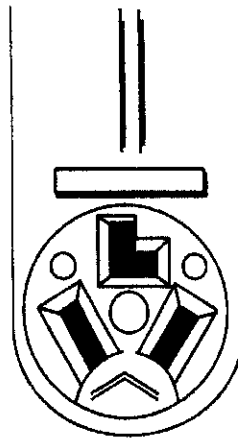
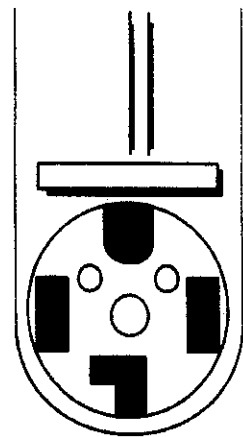

Fig. 2
Fig. 3
- A. A three-wire (Fig. 2) or four-wire (Fig. 3), single phase, 120/240 volt, 60 Hz, AC only electrical supply is required on a separate 30-ampere circuit, fused on both sides of the line. A time-delay fuse or circuit breaker is recommended.
1. Remove the yellow rip cord from the rear of the washer. Be sure two (2) cotter pins come out with the rip cord. (Fig. 2, page 2) Save this strap for use later.
2. Use the new hoses supplied with the laundry system. Insert a flat washer into each end of both hoses. (Fig. 2, page 2)
3. Attach one hose to the bottom (hot water) inlet valve connector first. Then, attach the other hose to the top (cold water) inlet valve connector. Hand tighten both connections. Finish tightening with a pair of pliers, an additional 2/3 turn. (Fig. 2, page 2)
5. Squeeze the ears of the drain hose clamp with a pair of pliers and place the clamp over the end of the drain hose. (*Fig. 2 - Inset A*)
7. Position the clamp over the drain hose area marked "clamp." Release the clamp. Clamp should be $\frac{1}{4}$ " from the end of the hose. (*Fig. 2 - Inset B*)